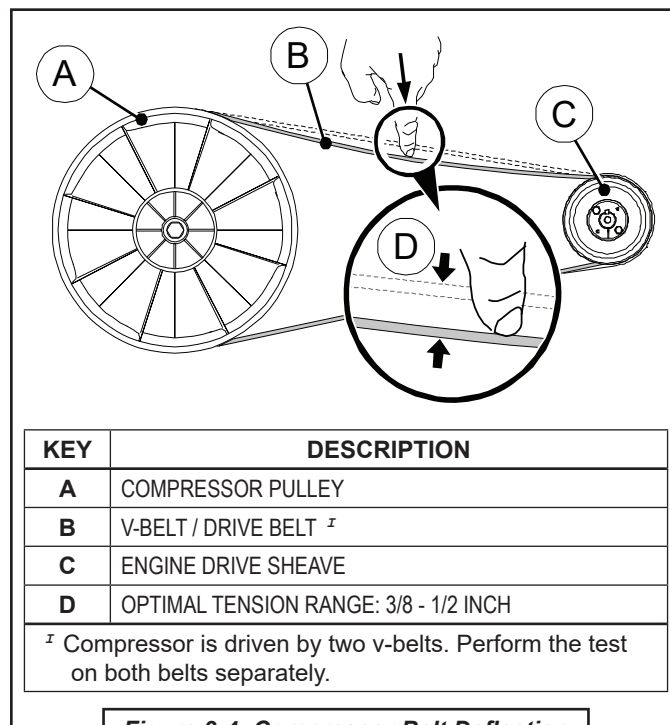

Figure 3-4: Compressor Belt Deflection
Consult **Figure 3-3**. The belt guard must be removed to access the drive belts. The Air N Arc 250-L Series All-In-One Power System utilizes two poly link series v-belts to drive the compressor unit, and a single serpentine v-belt to drive the generator system. Consult **Figure 3-4**, and the following procedure to access the drive belts:
The poly link v-belts used for the compressor drive do not require a separate tensioner. Rather, the belts are directly sized by the amount of links in the belt. Proper tension on a poly link v-belt is 3/8 to 1/2 inch “give”. Consult **Figures 3-4, 3-5, 3-6, 3-7**, and the following procedure:
2. Check the deflection of each belt for looseness by applying pressure with a finger at the center location between the pulleys, as shown in **Figure 3-4**. The “give” should be in the range of 3/8 to 1/2 inch for each belt.